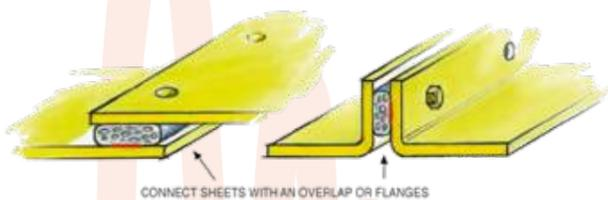

Figure 26.1 : Examples of a stiff construction to prevent openings.
- It has the right dimensions (Fig. 26.1)
- The construction is stiff enough (Fig. 26.1)